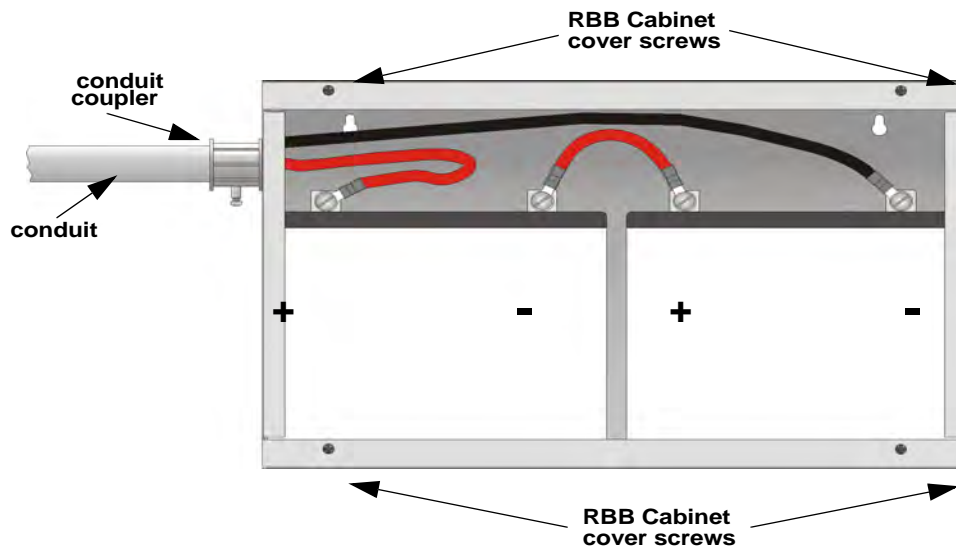

Figure 4.7 Battery Connections in the RBB Cabinet
NOTE: Figure 4.7 is an example of how the wire connections can be routed. However, any other cabinet knock-outs (on either the main control panel or the RBB cabinet), that are not previously being used may be utilized to connect conduit between the two cabinets.
6. Align the cover plate mounting keyhole over the cover mounting screws. See Figure 4.7.
7. Slide the cover into place and tighten the cover mounting screws. See Figure 4.7.